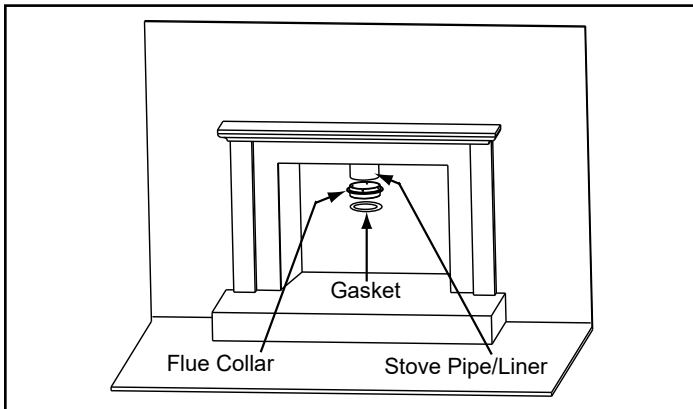

Figure 5.3
1. There are 4 already drilled holes in the flue collar 90 degrees apart. Attach the flue collar to the stove pipe/liner. If the seal is questionable use high temperature sealant such as stove mastic (**Figure 5.3**).